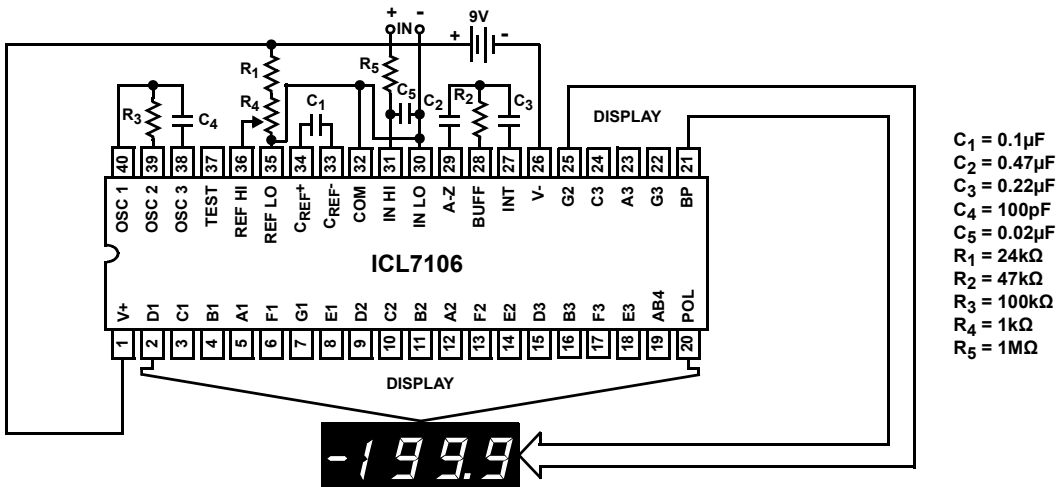
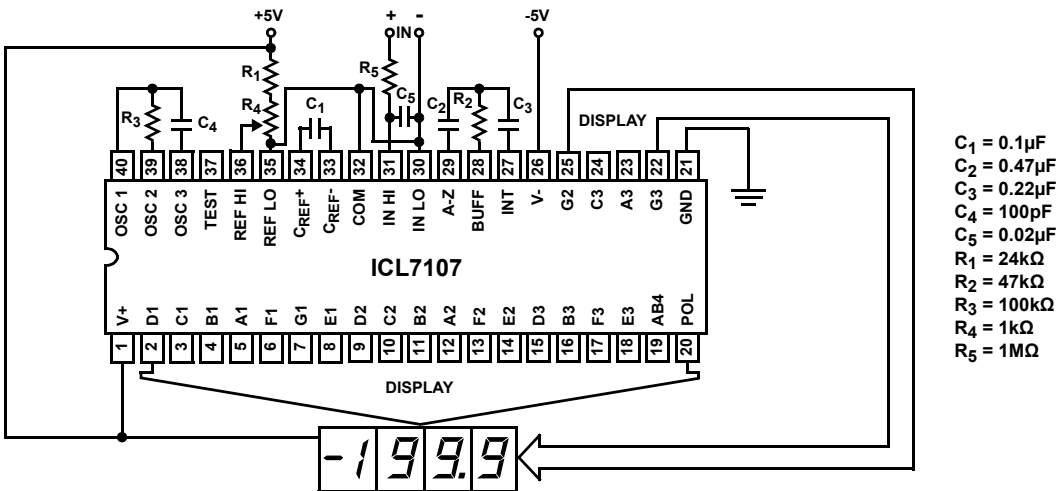

FIGURE 1. ICL7106 TEST CIRCUIT AND TYPICAL APPLICATION WITH LCD DISPLAY COMPONENTS SELECTED FOR 200mV FULL SCALE
FIGURE 2. ICL7107 TEST CIRCUIT AND TYPICAL APPLICATION WITH LED DISPLAY COMPONENTS SELECTED FOR 200mV FULL SCALE
- 8. Unless otherwise noted, specifications apply to both the ICL7106 and ICL7107 at T_A = +25 °C, f_{CLOCK} = 48kHz. ICL7106 is tested in the circuit of Figure 1. ICL7107 is tested in the circuit of Figure 2.